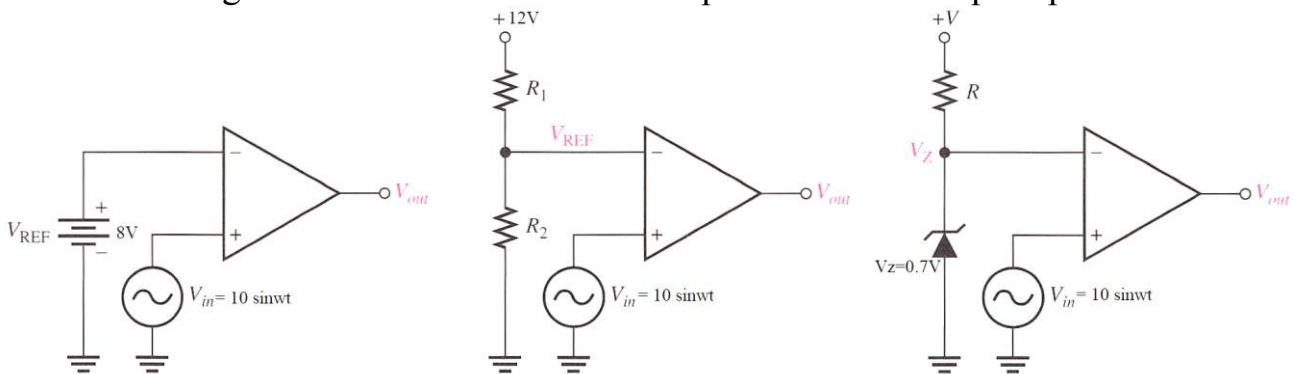

Fig. 43
**Problem:** Draw the output showing its proper relationship to the input signal of the comparator circuits shown in Fig.43. Assume the maximum output levels of the op-amp are  $\pm 15V$ .